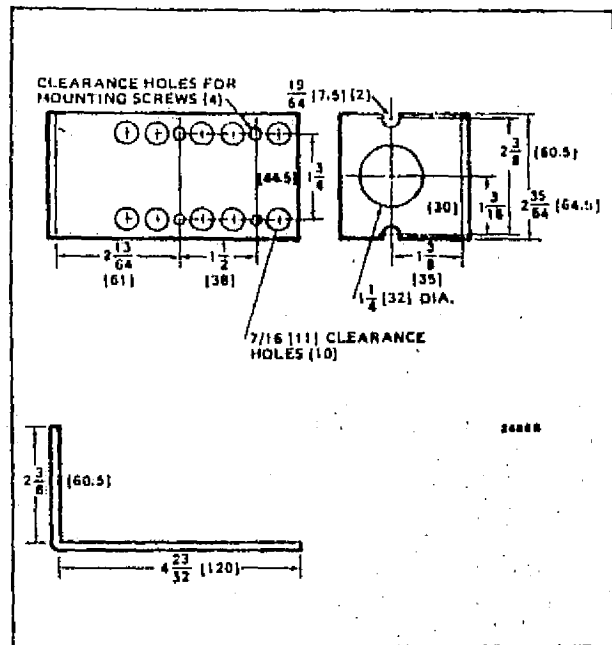

FIG. 3-DIMENSIONS OF 126809 BRACKET, IN INCHES [MILLIMETERS SHOWN IN BRACKETS].
4. 7640JM Bag Assembly-mounting bracket, Part No. 126809, and screws (Figs. 3, 4, and 7).